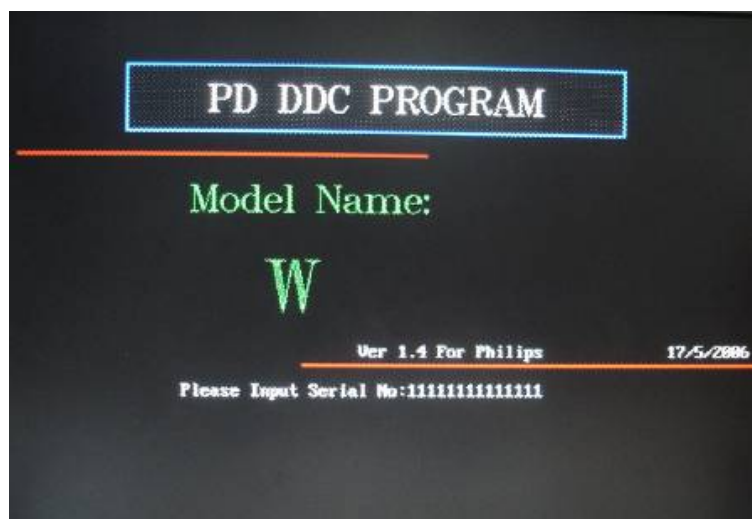

Fig 3
Step 3: Press Enter into the next screen as shown Fig 3.
- Input 14 byte digital Serial No. such as "11111111111111" as shown Fig 3.